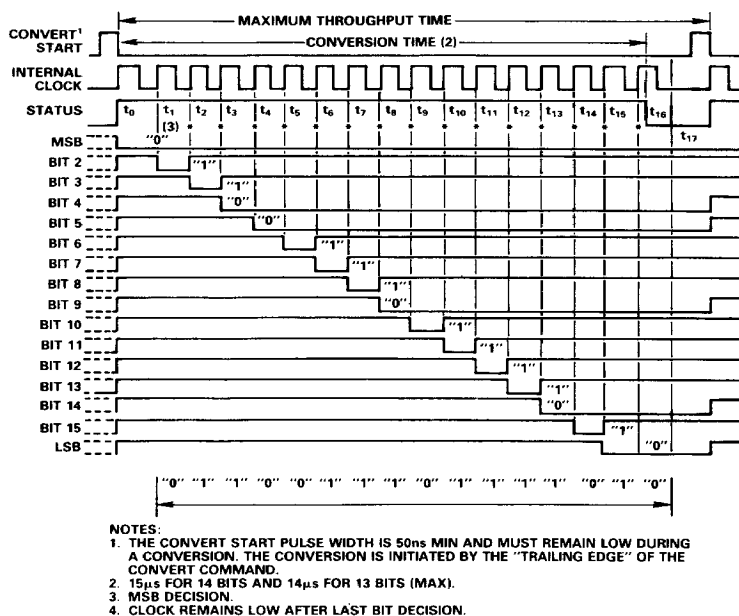

Figure 6. Timing Diagram (Binary Code 011001110111010)
The timing diagram is shown in Figure 6. Receipt of a CONVERT START signal sets the STATUS flag, indicating conversion in progress. This, in turn, removes the inhibit applied to the gated clock, permitting it to run through 17 cycles. All the SAR parallel bits, STATUS flip-flops, and the gated clock inhibit signal are initialized on the trailing edge of the CONVERT START signal. At time  $t_0$ ,  $B_1$  is reset and  $B_2 - B_{16}$  are set unconditionally. At  $t_1$  the Bit 1 decision is made (keep) and Bit 2 is reset unconditionally. This sequence continues until the Bit 16 (LSB) decision (keep) is made at  $t_{16}$ . The STATUS flag is reset, indicating that the conversion is complete and that the parallel output data is valid. Resetting the STATUS flag restores the gated clock inhibit signal, forcing the clock output to the low Logic "0" state. Note that the clock remains low until the next conversion.
**Short Cycle Input:** A Short Cycle Input, pin 32, permits the timing cycle shown in Figure 6 to be terminated after any number of desired bits has been converted, permitting somewhat shorter conversion times in applications not requiring full 16-bit resolution. When 10-bit resolution is desired, pin 32 is connected to Bit 11 output pin 11. The conversion cycle then terminates and the STATUS flag resets after the Bit 10 decision (timing diagram of Figure 6). Short cycle connections and associated 8-, 10-, 12-, 13-, 14-, and 15-bit conversion times are summarized in Table I, for a 933kHz clock.